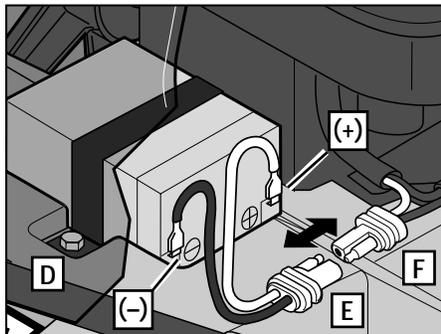

Figure 5-15
2. First disconnect the negative (-) black wire from the battery terminal. Next disconnect the positive (+) red wire from the battery terminal. NOTE: The plastic receptacles (E and F, Figure 5-15) do not need to be disconnected.
3. Remove the front screw (D, Figure 5-15) from the battery clamp and remove the battery. Discard the battery according to battery disposal regulations in your area.
4. Place the new battery under the clamp as shown in Figure 5-15. Replace the clamp screw (D).